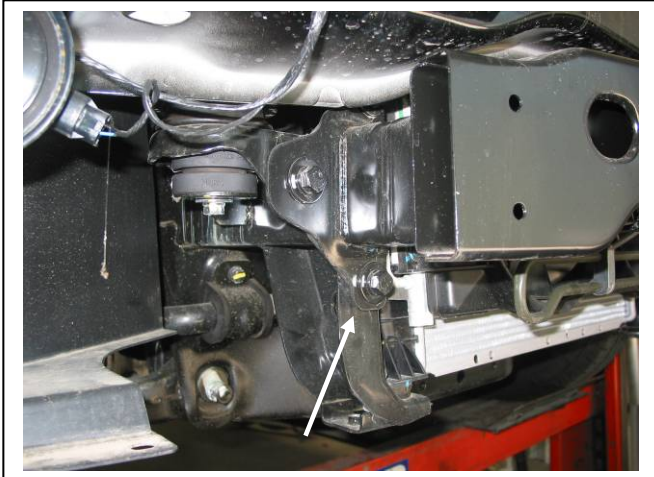

Figure 4: Remove lower bolt. Bumper removed for photo
6. Remove lower 17mm bolt and nut on front of chassis rail on both sides. **See figure 4.**